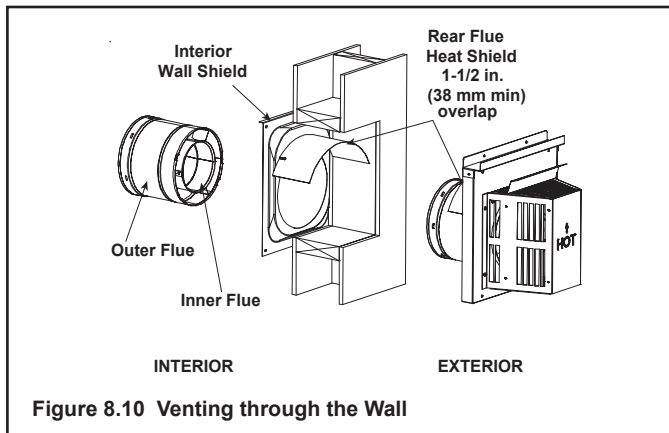

Figure 8.10 Venting through the Wall
- One section of the heat shield is attached to the wall shield. The other is attached to the termination cap in the same manner (see Figure 8.10).
- The small leg in the shield rests on top of the flue to properly space it from the pipe section (see Figure 8.10).
- **DO NOT** remove the heat shields attached to the wall shield firestop and the horizontal termination cap (shown in Figure 8.10).